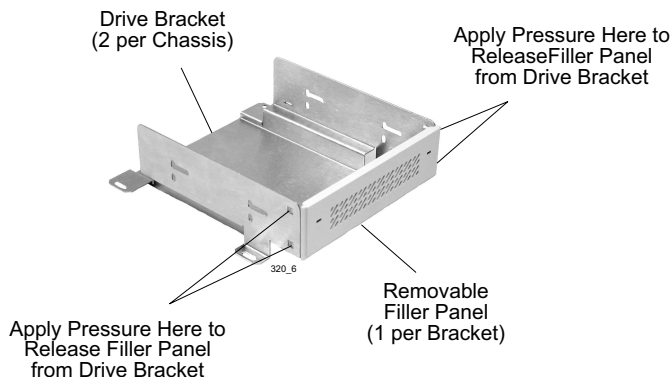

Figure 6: Removing the Filler Panel
1. Carefully remove filler panel(s) by applying pressure to the tabs with the tip of a flat blade screwdriver (Figure 6).